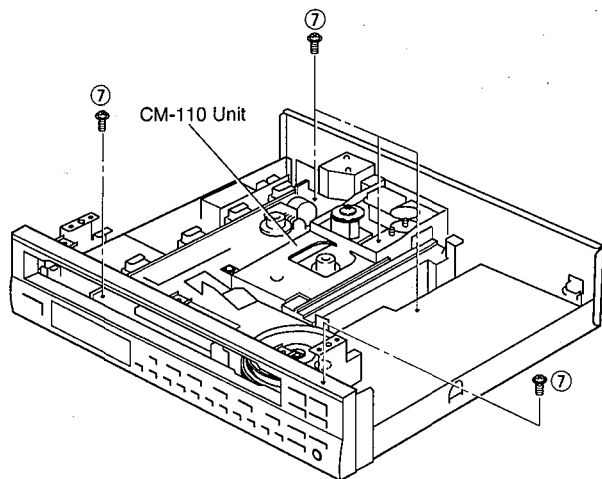

Fig. 3
- a. Remove 5 screws (⑦) as shown in Fig. 3.
- c. Take the CM-110 Unit out slowly as shown in Fig. 3.